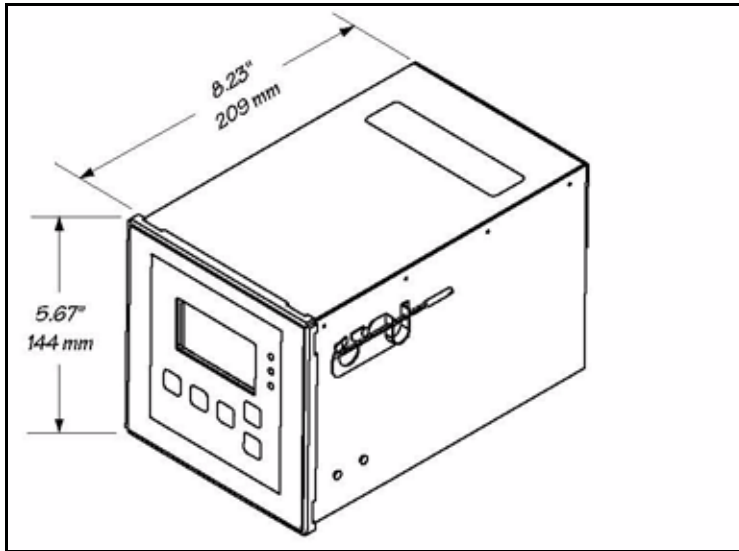

Figure 7: MMY 2650 Panel Mount Version
3. From the rear side of the panel, slide the two mounting clamps into place on each side of the unit (see Figure 7 on page 7).